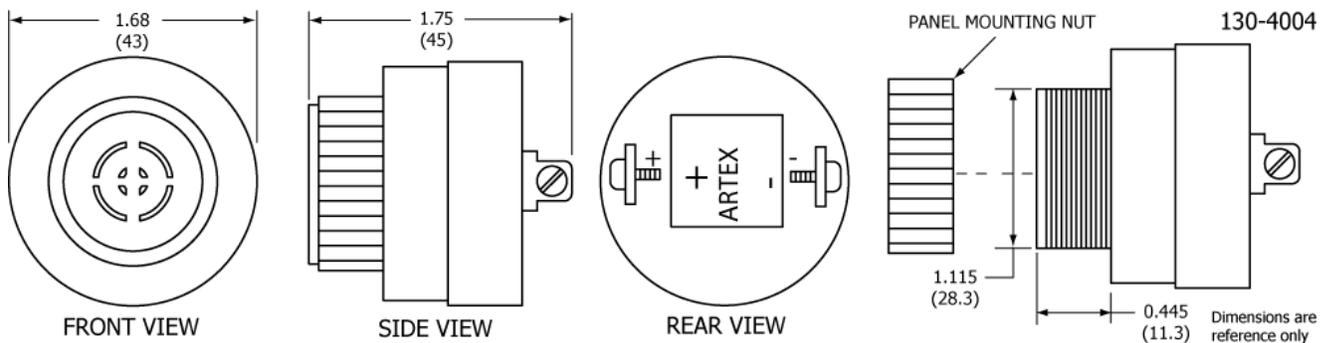

Figure 20 Buzzer Outline and Dimensions
- 2) Fabricate a bracket suitable for supporting the buzzer. Buzzer dimensions are shown in Figure 20 Buzzer Outline and Dimensions.